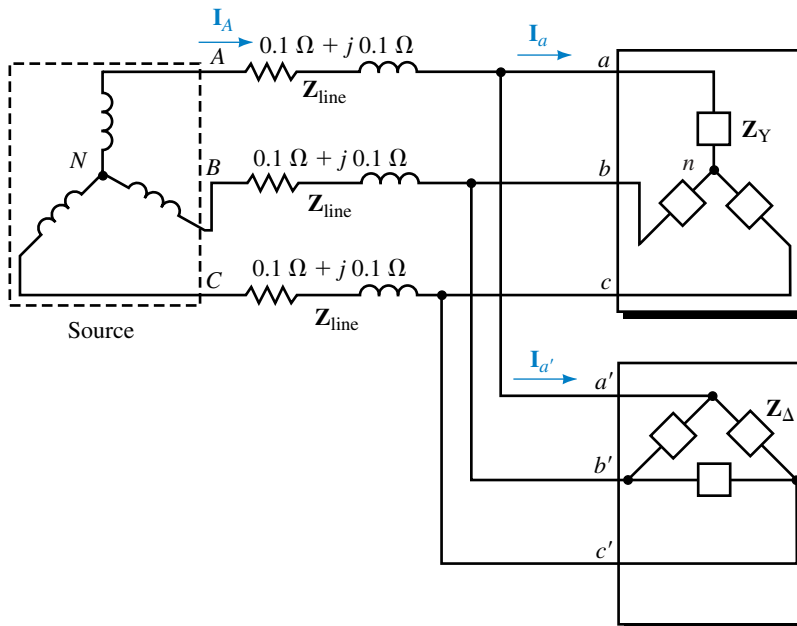

FIGURE 23-49
28. For Figure 23-49, $\mathbf{Z}_Y = 12 \Omega + j9 \Omega$ and $\mathbf{Z}_\Delta = 27 \Omega + j36 \Omega$. At the Y load, $\mathbf{V}_{an} = 120 \text{ V} \angle 0^\circ$.
30. For Figure 23-49, $\mathbf{Z}_Y = 12 \Omega + j9 \Omega$ and $\mathbf{Z}_\Delta = 36 \Omega + j27 \Omega$. Line current $\mathbf{I}_A$ is $46.2 \text{ A} \angle -36.87^\circ$. Find the phase currents for both loads.
31. For Figure 23-49, $\mathbf{Z}_Y = 15 \Omega + j20 \Omega$, $\mathbf{Z}_\Delta = 9 \Omega - j12 \Omega$ and $\mathbf{I}_{a'b'} = 40 \text{ A} \angle 73.13^\circ$. Find Y phase voltage $\mathbf{V}_{an}$, magnitude and angle.
42. For Figure 23-49, let $\mathbf{Z}_{\text{line}} = 0 \Omega$, $\mathbf{Z}_Y = 20 \Omega \angle 0^\circ$, $\mathbf{Z}_\Delta = 30 \Omega \angle 10^\circ$, and $E_{AN} = 120 \text{ V}$.